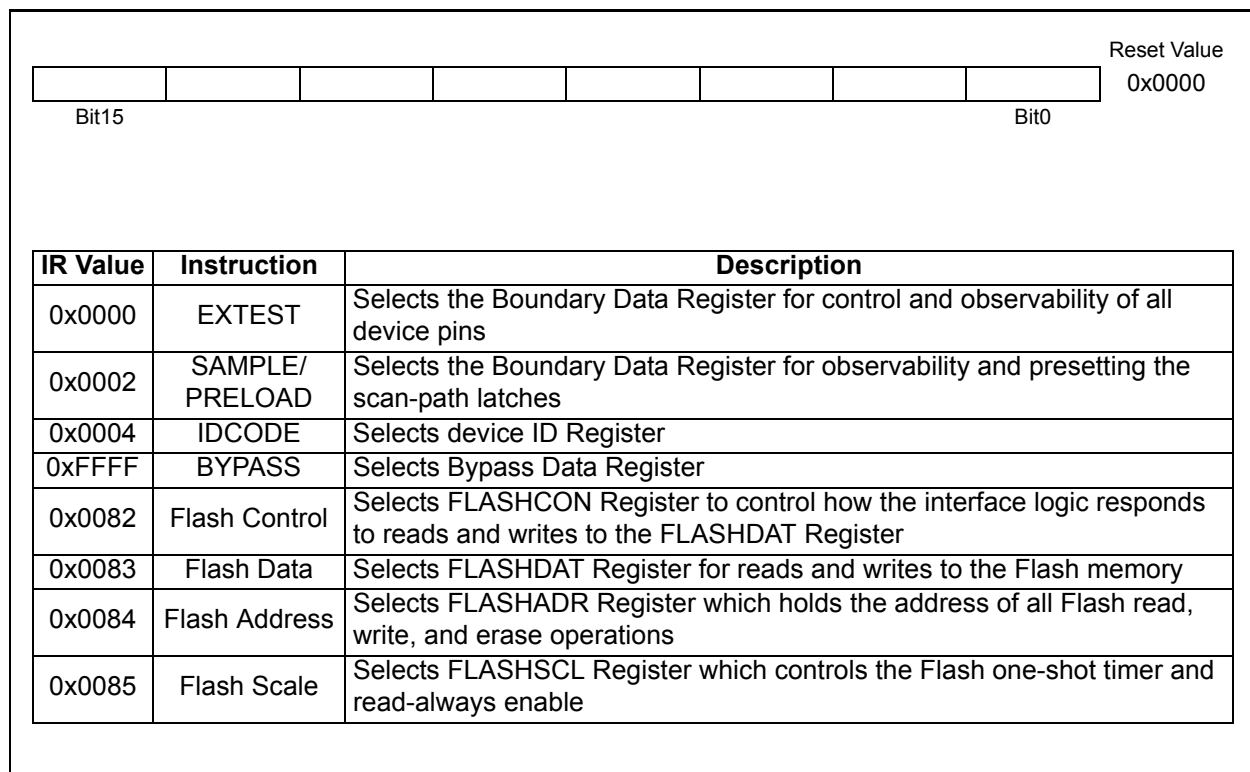

Figure 25.1. IR: JTAG Instruction Register
Through the 16-bit JTAG Instruction Register (IR), any of the eight instructions shown in Figure 25.1 can be commanded. There are three DR's associated with JTAG Boundary-Scan, and four associated with Flash read/write operations on the MCU.